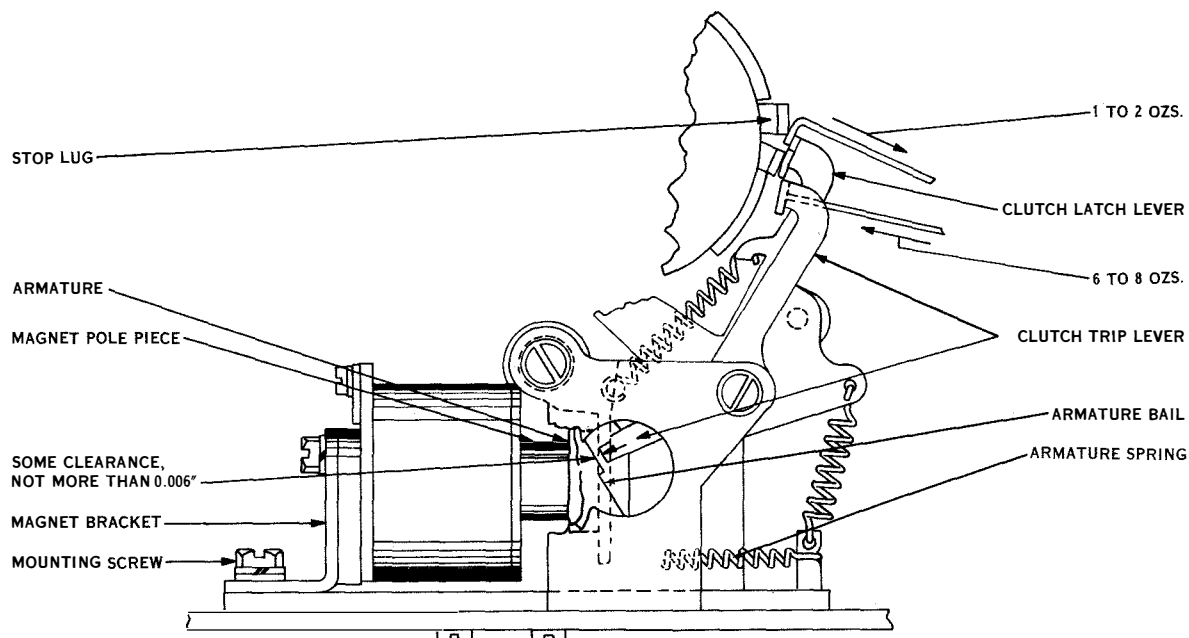

Figure 7-74. Clutch Magnet Bracket, and Trip and Latch Lever Spring Tensions
(2) CLUTCH MAGNET BRACKET. (See figure 7-74.)—With the armature spring unhooked and the clutch magnets energized with a direct current of 0.025 amperes, the armature should make contact with both pole pieces and there should be some clearance, but not more than 0.006 inch, between the high part of the armature bail and the lower extension of the clutch trip lever (measure at the closest point). To adjust, position the magnet bracket with its mounting screws loosened slightly.
(6) **CLUTCH TRIP LEVER SPRING TENSION.** (See figure 7-74.)—With the clutch latched in the stop position, operate the clutch magnet armature bail to unlatch the clutch trip lever. Hold the armature against the pole pieces. Place the push end of an eight-ounce scale against the stop lug of the clutch trip lever and push at right angles to the lever. It should require five to eight ounces to start the lever moving toward the clutch.
(7) **CLUTCH LATCH LEVER SPRING TENSION.** (See figure 7-74.)—With the clutch latch lever resting on the center of the stop lug on the clutch disk,